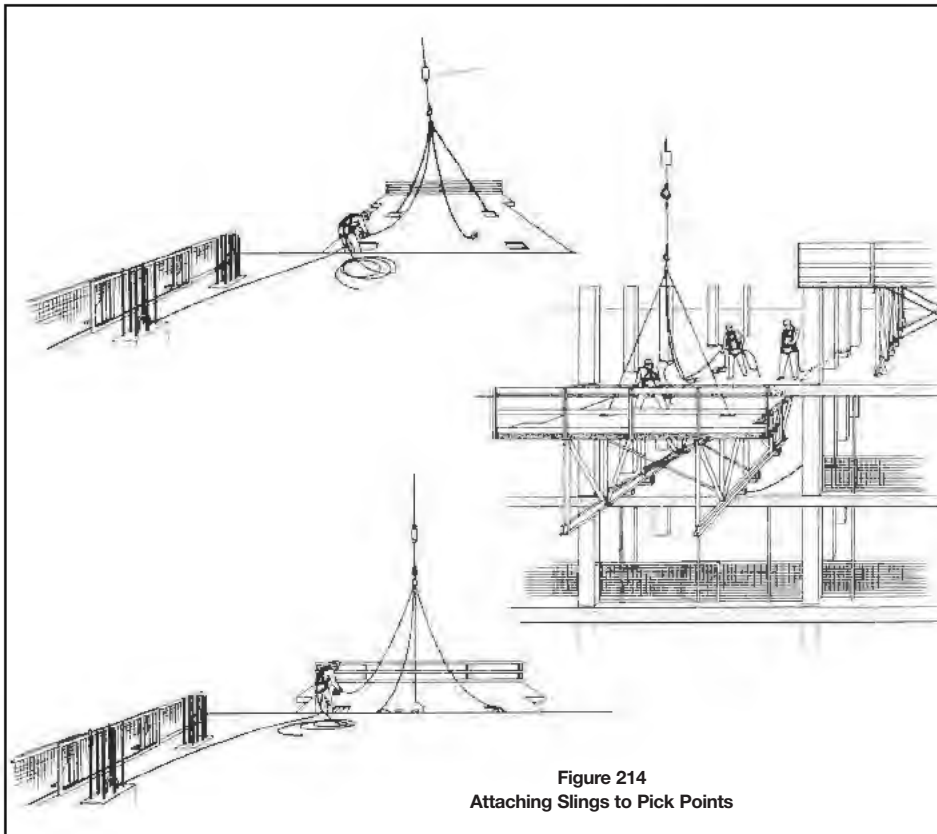

Figure 214
- stepping onto a panel to attach slings to pick points (Figure 214).